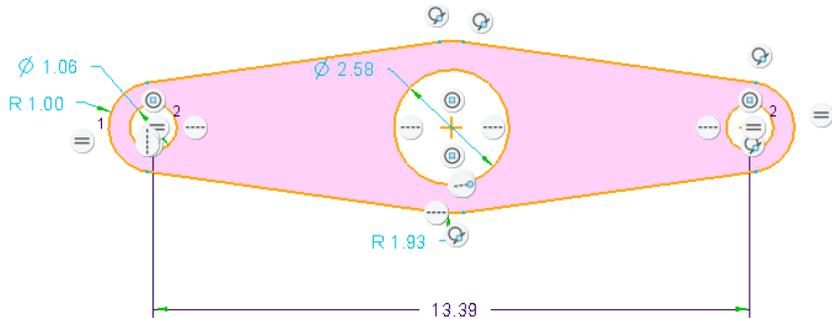

Figure 3-41 Sketch with constraints
2. Select the center of the right and left circles; the centers of the circles turn black in color. Now, using the middle mouse button, place the dimension below the sketch. The sketch after applying constraints is shown in Figure 3-41.